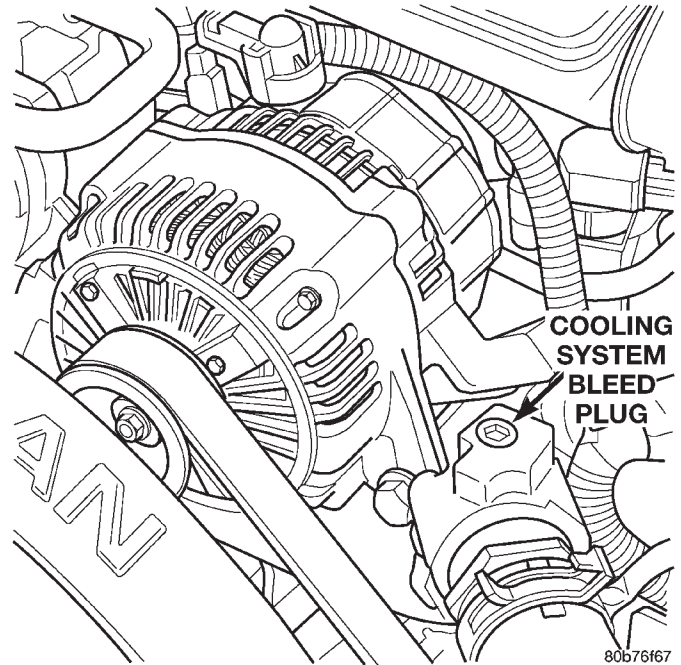

Fig. 24 Coolant Bleed Plug Location
(1) Tighten the radiator draincock and the cylinder block drain plug(s) (if removed).
(2) Remove the pipe plug labeled **COOLANT BLEED** 4.7L engines only. (Fig. 24)
(3) Fill system using a 50/50 mixture of ethylene-glycol antifreeze and low mineral content water. Fill radiator until coolant starts to come out of coolant bleed bore (4.7L engine only). install plug.
(4) Fill coolant reservoir to FULL mark.